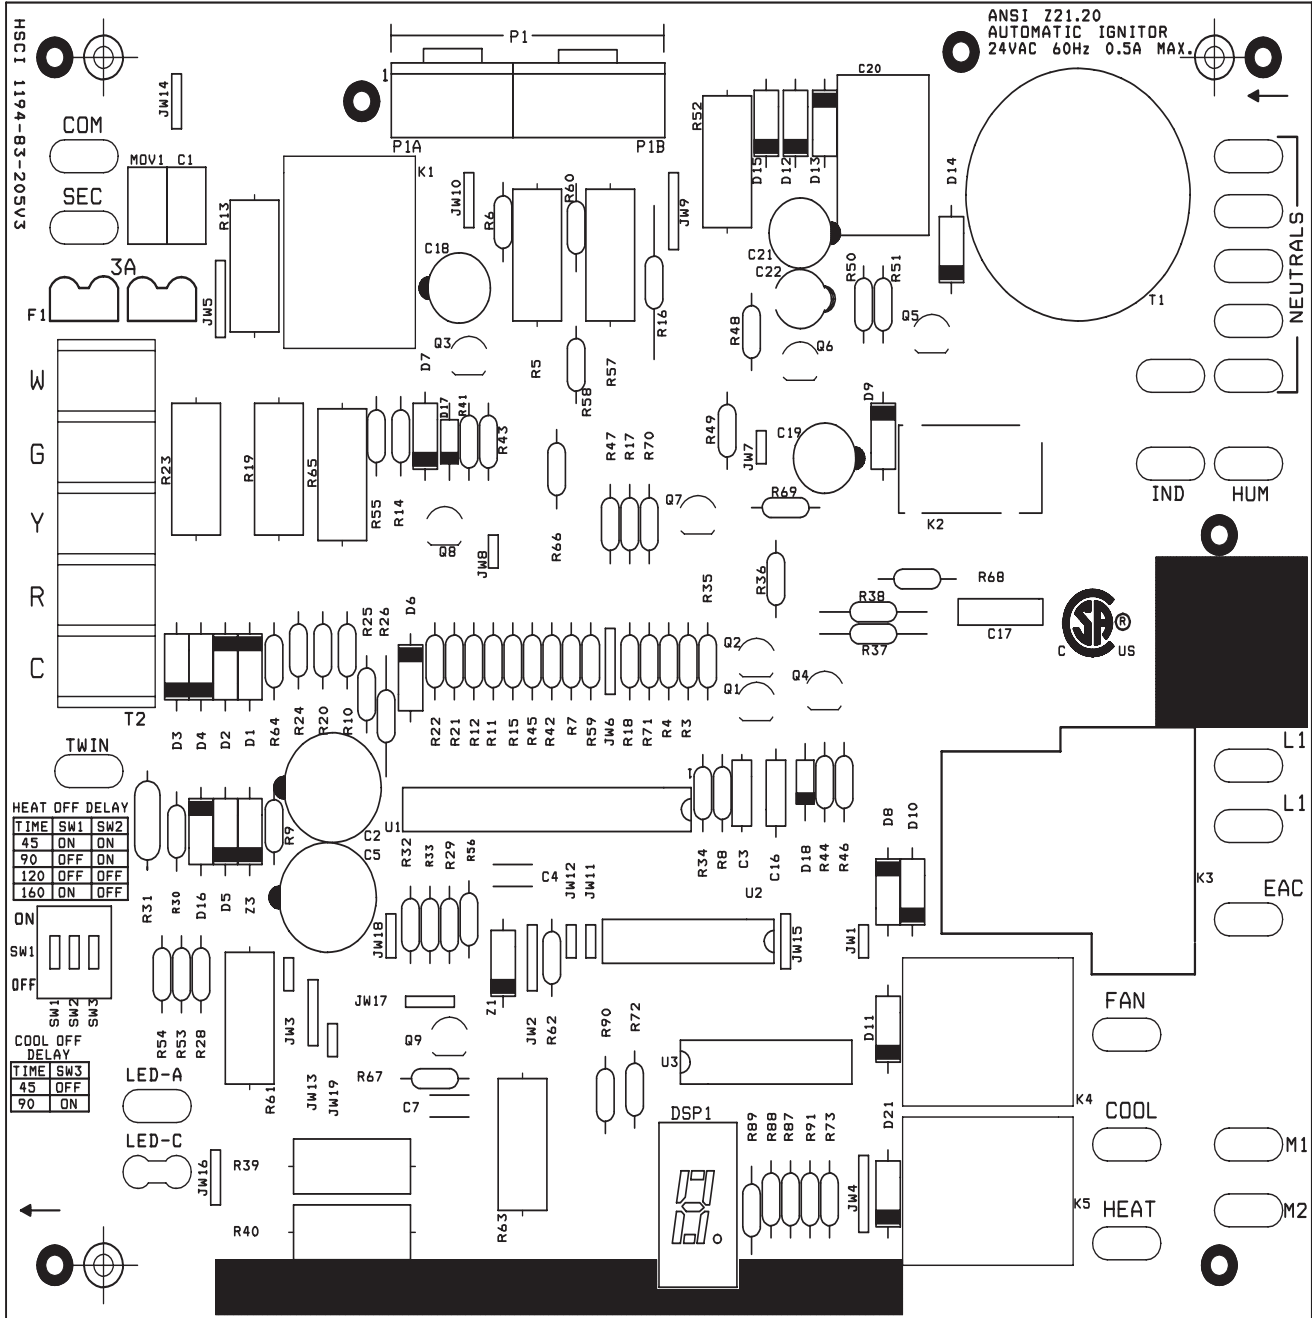
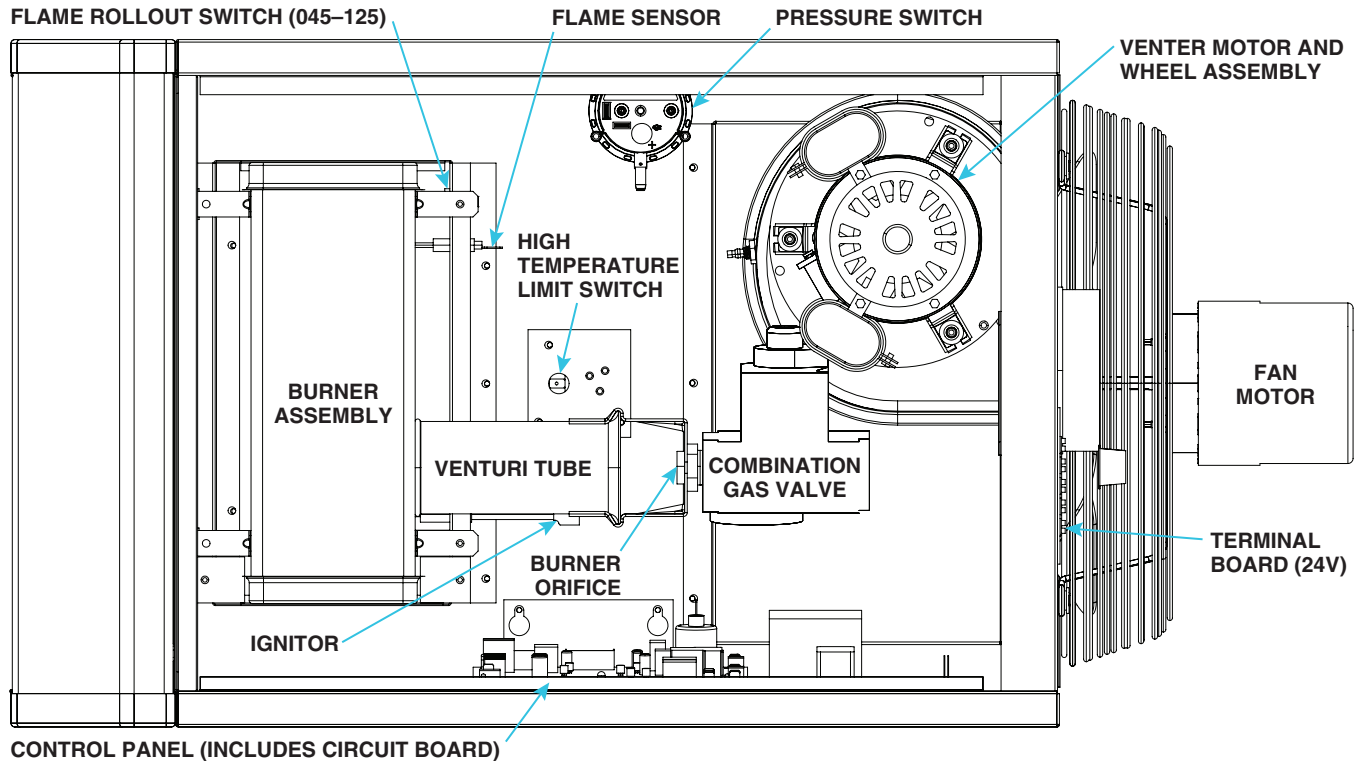

Figure 7. Circuit Board (DSI Control Module)
Figure 8. Heater Components
- The circuit board (see Figure 7) is located inside on the bottom of the control compartment. The circuit board is polarity sensitive. It is advisable to check the electrical supply ensure that the black wire is the **hot** wire and that the white wire is the **neutral** wire. The **hot** wire must be connected to terminal L1 on the circuit board.
Locations for the following controls are shown in **Figure 8**.
- The pressure (combustion air proving) switch (see **Figure 8** for location) is a pressure-sensitive switch that monitors air pressure to ensure that proper combustion airflow is available.
All units are equipped with a temperature-activated, automatic-reset high temperature limit control (see Figure 8 for location). The control is factory-set and is non-adjustable. If the setpoint is reached, the control interrupts the electric supply to the gas valve. This safety device provides protection in the case of motor failure or lack of airflow due to a restriction at the inlet or outlet.
Unit sizes 045–125 are equipped with a temperature-activated, manually-reset flame rollout switch (see Figure 8 for location). The flame rollout switch is located at the top of the burner assembly. The switch is factory-set and is non-adjustable. If the setpoint is reached, the switch interrupts the electric supply to the gas valve. If the flame rollout switch activates, identify and correct the cause before resetting the switch.
The combination gas valve (see Figure 8 for location) is powered by the 24V control circuit through the thermostat and safety controls. The diaphragm-type valve is pre-set at the factory and provides regulated gas flow.
The venter motor (see Figure 8 for location) is assembled to the venter wheel and operates to provide combustion airflow. Operation is controlled by the circuit board (see Figure 7). Refer to the Circuit Board \(DSI Control Module\) section for details.
The heater's ignition system is controlled by a circuit board (Direct-Spark Integrated (DSI) control module, see Figure 7) that monitors the safety devices and controls the operation of the fan and venter motors and the gas valve between heat cycles. To view the seven-segment display, the door panel requires removal. In addition, there is a status LED on the bottom of the heater. Its status indications are **off** (heater is not powered or control board fault), **steady on** (heater is on with no faults), or **flashing** (heater is on with fault(s)). Additional status indications appear on the display at the bottom of the control module (labeled as DSP1, see Figure 7). The display's codes are listed and described in Table 11.